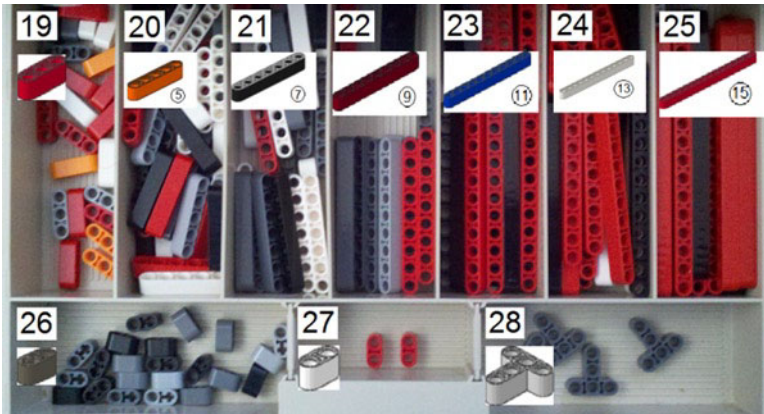

Figure 1-6. A drawer in a tackle box filled with LEGO Beams
- *Liftarm*: This refers to pieces like Beams and Levers, and all of their variations (see Figures 1-6 to 1-8).
As I mentioned earlier, the emphasis of recent LEGO Technic sets has been less about traditional LEGO pieces like Bricks and more about studless Beams. As you can see, organizing them is simple by length (Figure 1-6). Unlike Technic Bricks, the number of holes on the beam is equal to the length. Except for the 2M length, all beams tend to have an odd number of holes. Note that some of the Beams have a circled number beside them, and this is to indicate their length in terms of LEGO studs.